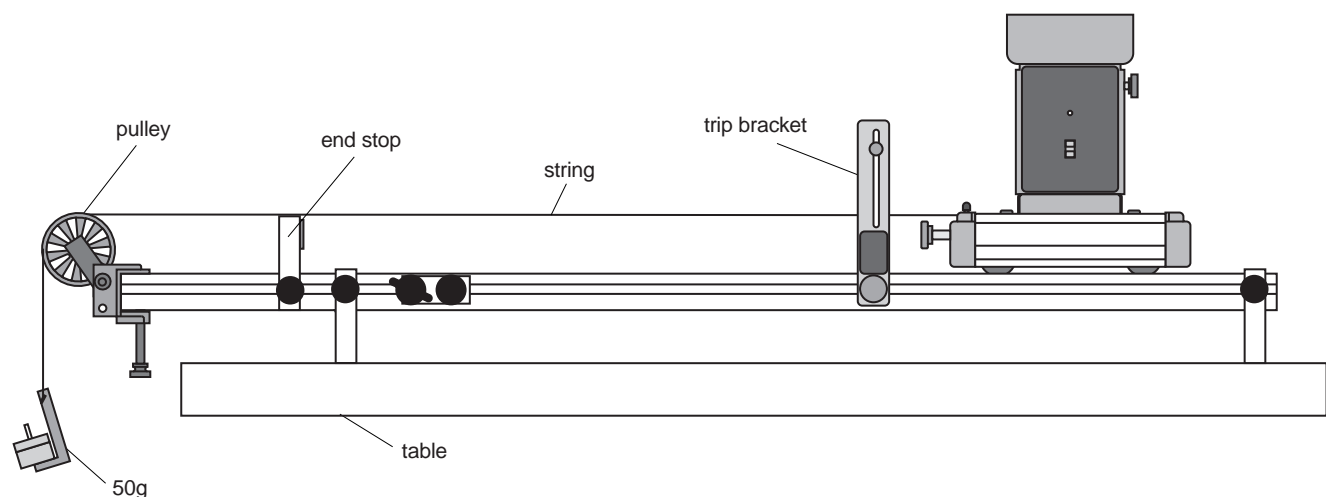

Figure 3.1: Accelerating Cart.
- ① Prior to the beginning of the demonstration, perform the Setup procedure.
- ② Clamp the pulley to the end of the track. Attach a string (about 1 meter long) to the cart and pass it over the pulley. Hang about 50 grams on the string. See Figure 3.1.
- ③ Put the photogate trip bracket in a position where it will launch the ball after the cart has begun to move.
- ④ Start the cart as far back as possible, load the ball, and let it go. In this case, the ball will fall behind the cart.